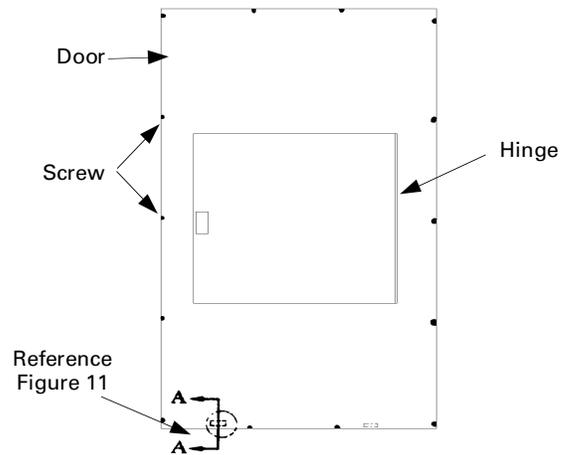
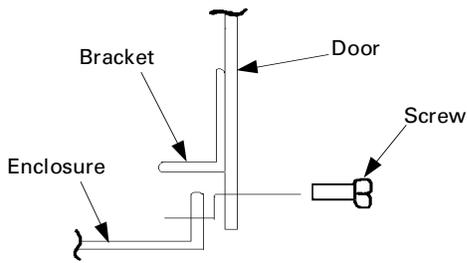

Figure 10. Installing the door front.
Figure 11. Attaching the door to the enclosure end wall.
4. Orient the door with the hinges to the right, as shown in Figure 10. Align the door with the enclosure side walls, and rest the welded brackets located at the lower back side of the door on the enclosure end wall, as illustrated in Figure 11. Fasten the door to the enclosure with the #10-32 x 11/16-in. self-tapping screws provided. Tighten all screws to 25–30 in.